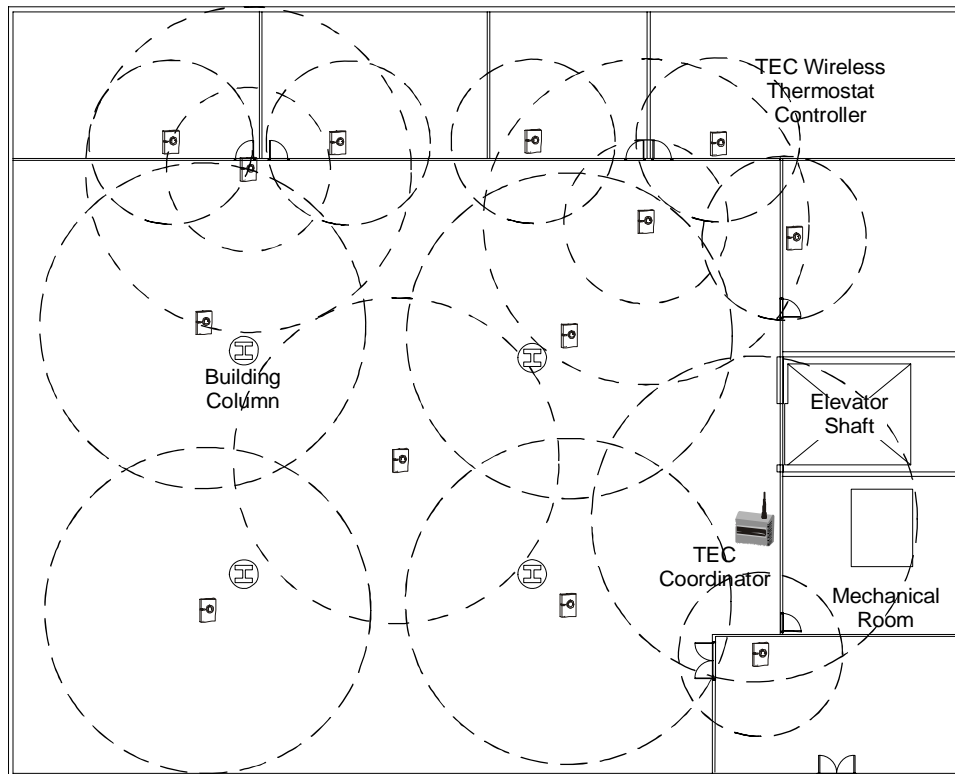

Figure 8: Building Floor Plan with TEC Series Wireless Thermostat Controller System, including Repeaters
6. Verify that each component's wireless transmission range overlaps with at least two other components. See Figure 8.